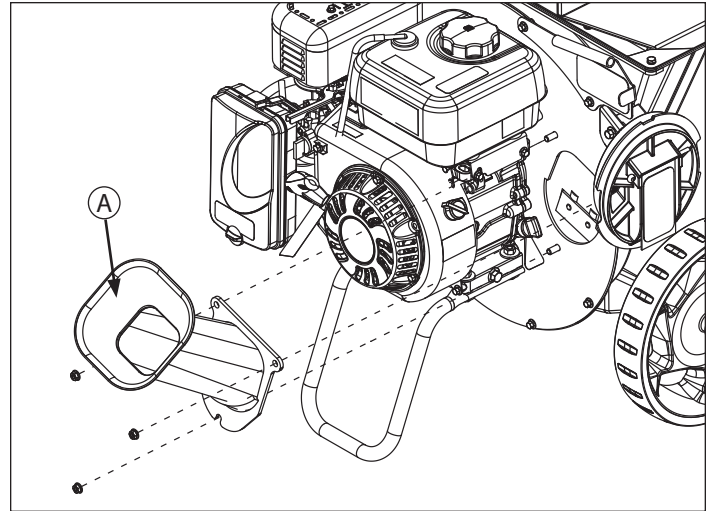

FIGURE 11- Inspect Chipper Knives
2. Remove the nuts securing the chipper cone to the front of the chipper. Remove the chipper cone (A) to access the knives. **SEE FIGURE 11**